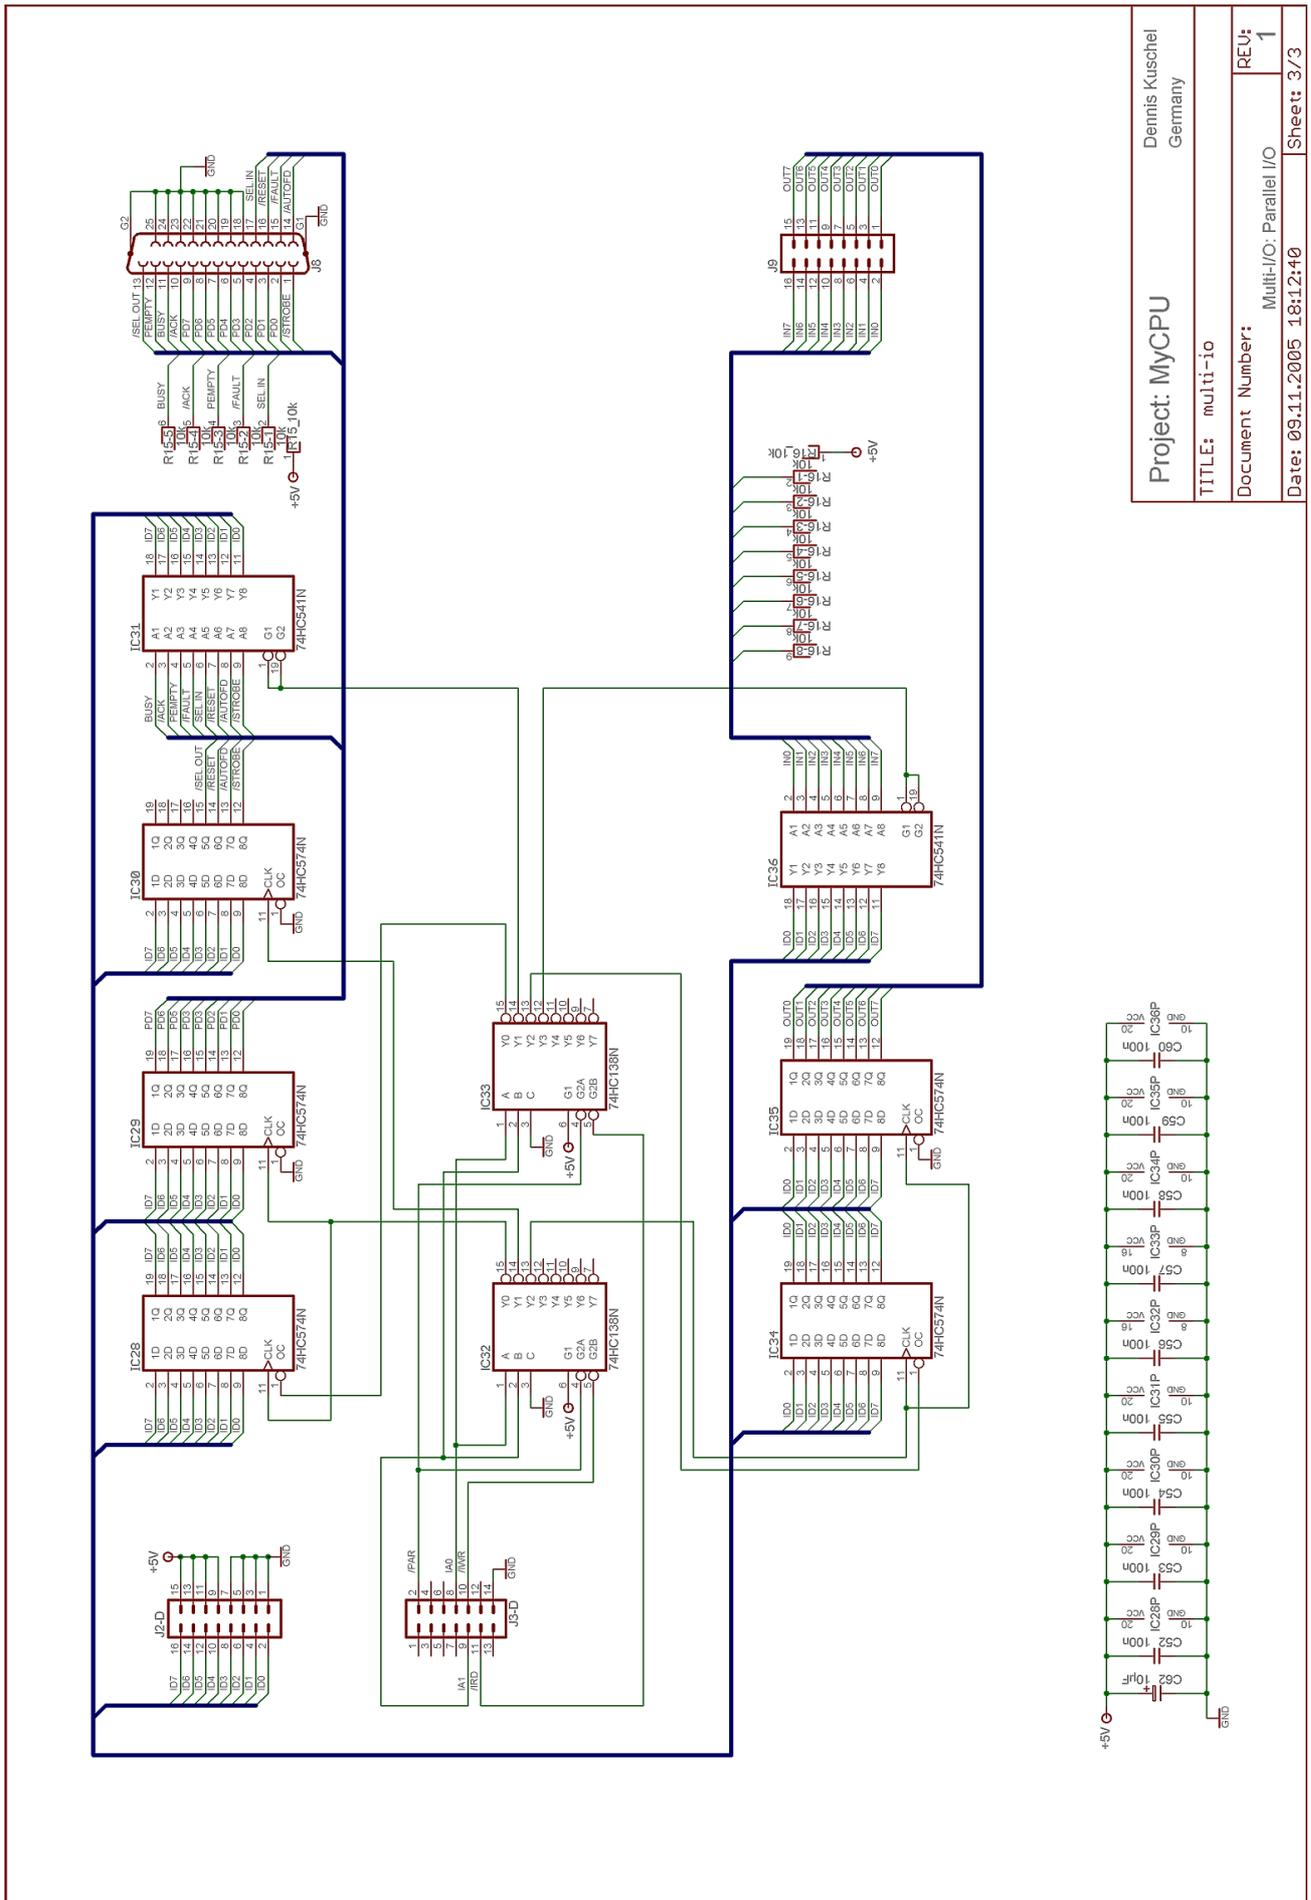

Fig. 23: Schematic of the Parallel Ports Interface Board
- Fig. 23 on Page 29: Schematic of the Parallel Ports Interface Board